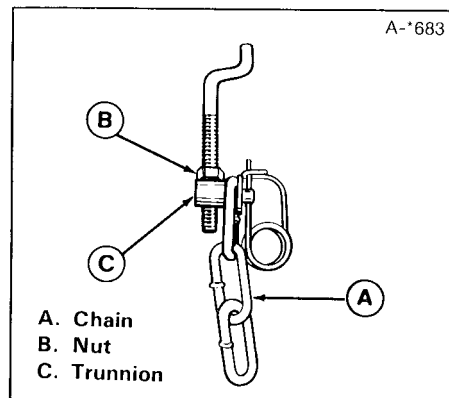

Figure 39. Lift Assembly - Large Lift Lever
4. To adjust, disconnect trunnion (C, figure 39) from lift chain. Loosen the nut, and turn trunnion to raise or lower mower. Tighten nut when measurement is correct.